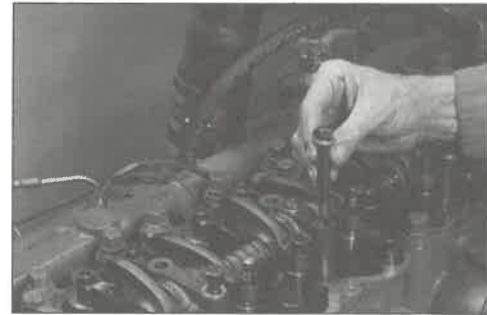

FIG. 10
Replace the rocker assemblies. Apply clean engine oil to the Mack hold-down capscrews and install one capscrew with a Mack washer in each bracket, next to the pushrods (see Fig. 10). There are three (3) capscrews to each rocker assembly.